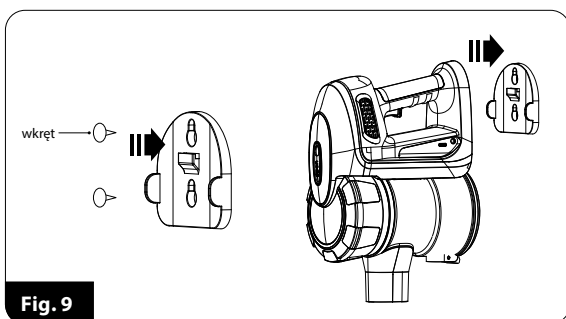

Fig. 9
3. Place the bracket (24) in the desired location on the wall, furniture, etc. and mark with a pencil the locations for the screws supplied with the vacuum cleaner.
4. Tighten the screws (fig.9) but do not tighten them completely so that the handle can be put on easily.